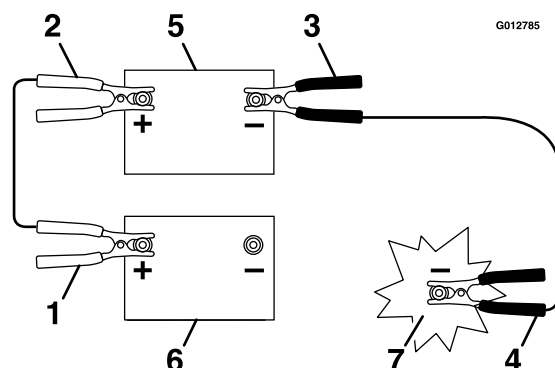

Figure 6
3. Connect the positive (+) cable to the positive (+) terminal of the discharged battery that is wired to the starter or solenoid as shown in Figure 6.